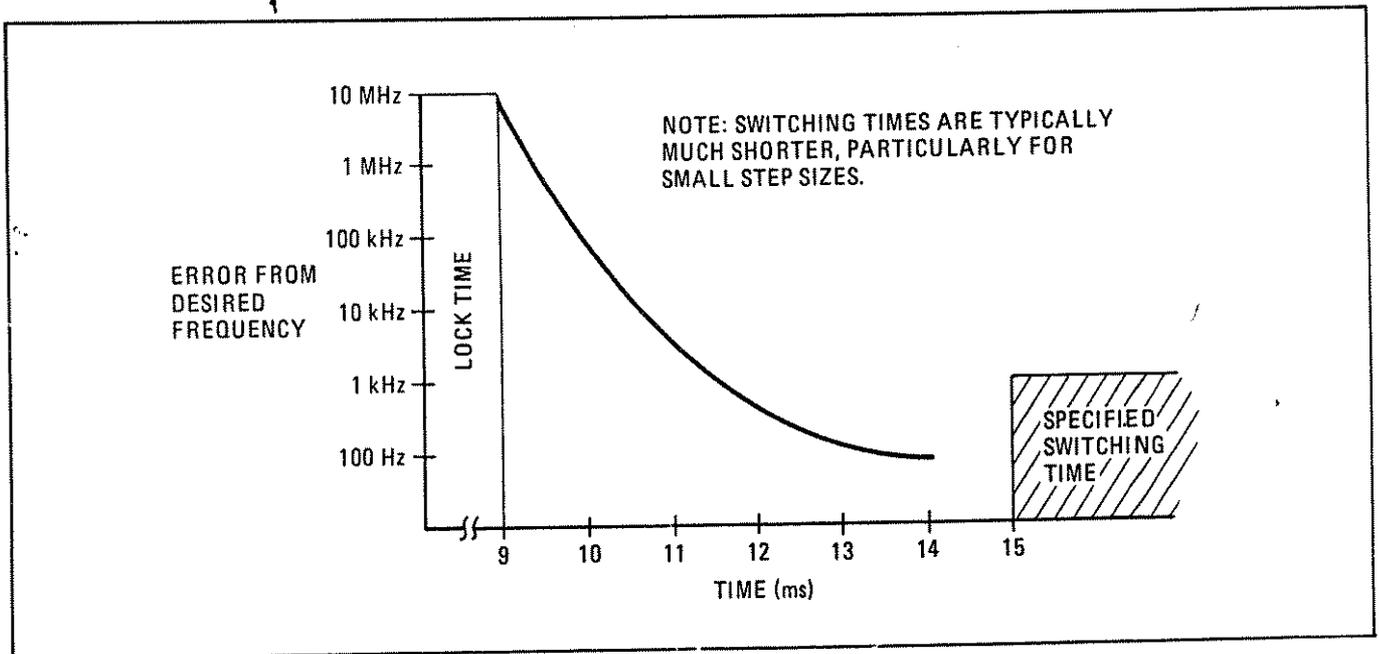

Figure 3-6. Typical frequency switching time showing WORST CASE lock and settling times
a. Frequency Switching. The time it takes to switch from one frequency to the next depends on the largest frequency digit being changed. Generally, the smaller the digit being changed, the shorter the switching time. Typical switching times by largest digit being changed on the 2.0 to 6.2 GHz band are shown in Figure 3-6 below. For higher bands, actual digits being changed must be determined by dividing the output frequency by 2 (6.2 to 12.4 GHz band), or by 3 (12.4 to 18 GHz band). If FM is on during a frequency change, switching time will increase.